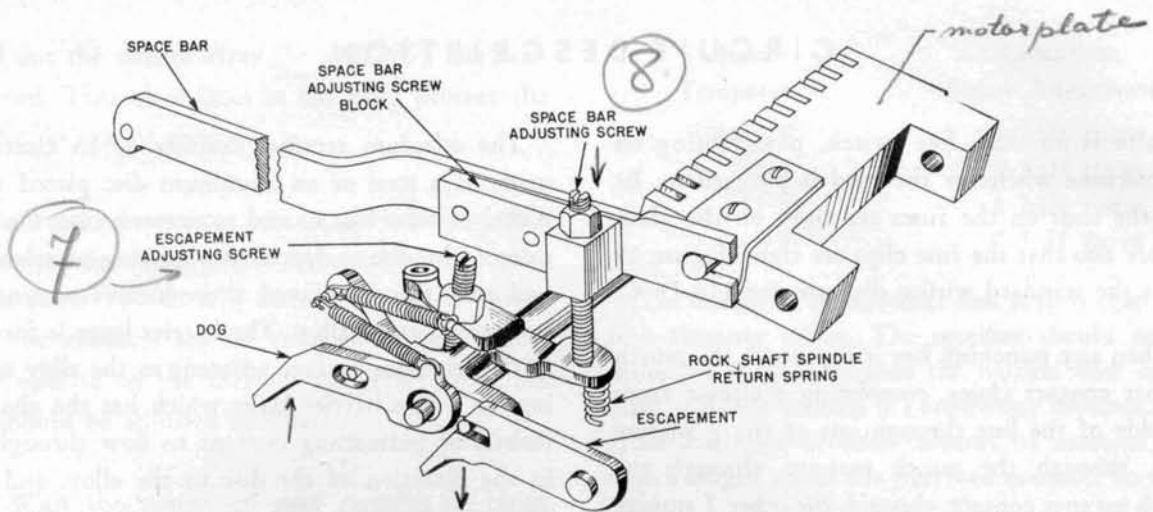

Figure 28
Escapement - Figure 28
Space Bar Adjusting Screw Block - Figure 28
Space Bar Adjusting Screw - Figure 28
- 7 - Escapement Adjustm. Screw. See Fig.28. Adjust so that when Carriage is in the very left position and by lifting up the carr. the escapement should just clear the tooth of the rack.
- 8 - Space bar Adj. Screw. See Fig.28 and 16. Dog lifting pin in the middle of the hole. Adj. is OK if with attracted magnets the dog is 1/32" inch above the rack.